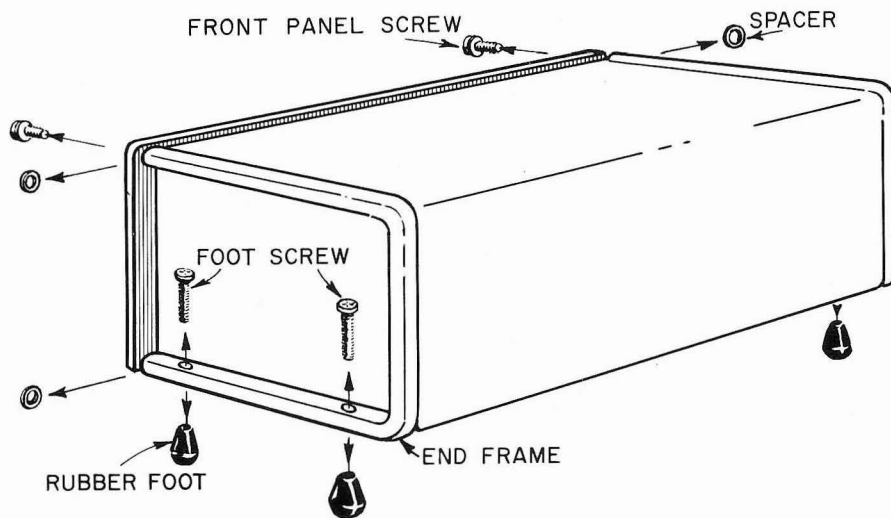

Figure 2-1. Rack Mounting: Preparation of instrument for attachment of wings.
- (b.) Remove and retain the screws that secure the front panel to the aluminum end frames (see Figure 2-1).